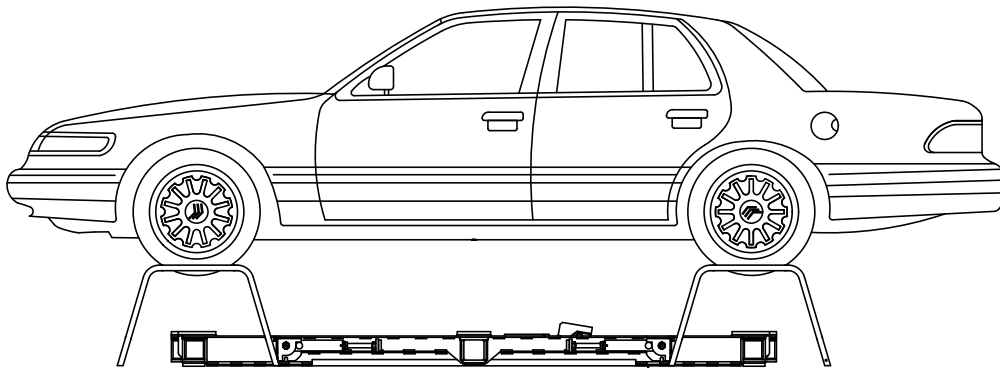

Figure 26
4. Remove the Support Stands and lift pads (see Figure 26).